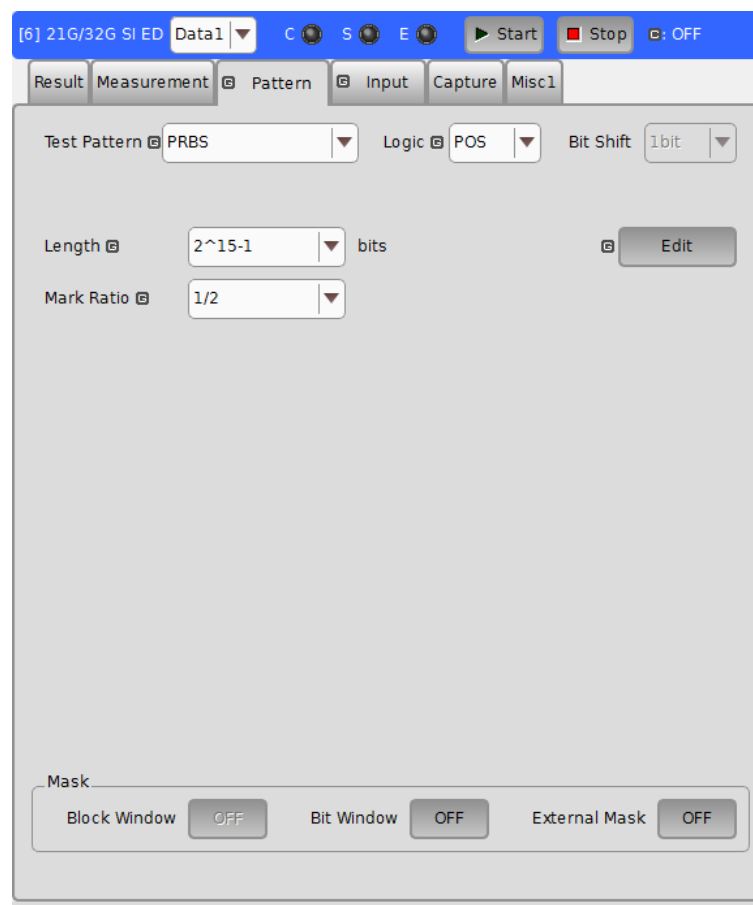

Figure 4.3.4.3-1 MU195040A Pattern Tab
**Pattern** tab is shown in Figure 4.3.4.3-1.